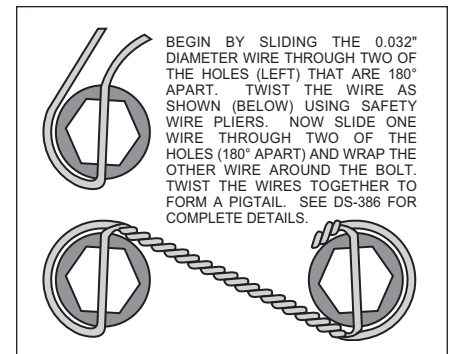

Figure 3. Safety Wire Diagram
- The spindle and caliper bracket (1) have been assembled at the factory for alignment purposes. Loosen the two bolts that secure the brackets together so that the bolts are hand tight only, this will enable the bracket assembly (1) to be adjusted to accommodate various spindle tolerances during assembly. Bolt the lower portion of the bracket assembly (1) to the backing plate face of the spindle using two bolts (2) and two lock nuts (3), hand tighten only. **NOTE:** Be sure the heads of the bracket assembly (1) insert nuts are facing outward toward the wheel. Install bolt (4) through caliper bracket (1), and into the steering arm. Torque two bolts (2) to 47 ft-lb. Apply red *Loctite*® 271 to the bolt threads (4) and torque to 140 ft-lb. Remove one of the bolts that secure the bracket assembly (1) to each other. Apply red *Loctite*® 271 to the bolt threads and reinsert into the bracket assembly. Repeat this procedure for the second bolt. Torque these two bolts to 30 ft-lb.
- Install five new wheel studs (5) into the hub (6). Torque to 77 ft-lb. **NOTE:** There are two five lug patterns in the hub (5 x 4.50 and 5 x 4.75). Make sure of the correct hole pattern for the correct wheel application before installing studs into hub.
- Pack the large inner bearing cone (7) with high temperature disc brake bearing grease (available from your local auto parts store) and install into the backside of the hub (6).
- Install the grease seal (8) by pressing into the backside of the hub (6).
- Pack the small outer bearing cone (13) with high temperature disc brake bearing grease and install into the front side of the hub (6). Lightly coat the spindle bearing surfaces with bearing grease. Slide the hub assembly (5, 6, 7, 8 and 13) onto the spindle. Secure using spindle washer (14), existing adjusting nut and nut locking device. Adjust wheel bearing pre-load per Original Equipment Manufacturer (OEM) specifications.
- Install the o-ring (15) and the dust cap (16) into the hub (6). Friction created by the o-ring (15) on the dust cap (16) keeps it from unscrewing. The O.D. of the existing spindle washer may be larger than the I.D. of the dust cap (16) which may allow the washer to contact the dust cap (16). Use the spindle washer (14) supplied with the kit instead of the stock washer.
- With the larger I.D. side of the rotor (9) facing away from the hat (11), bolt rotor (9) to hat (11) through the backside of the rotor using bolts (10). Torque bolts (10) to 180 **in-lb**. Safety wire bolts (10) using standard 0.032 inch diameter stainless steel safety wire as shown in Figure 3. Please refer to Wilwood's data sheet DS-386 (available at [www.wilwood.org/ds386.pdf](http://www.wilwood.org/ds386.pdf)) for complete safety wire installation instructions.
- Slide the rotor/hat assembly (9, 10 and 11) over the wheel studs (5) in the hub (6) taking care to align the small countersunk holes in the hat (11) with the small threaded holes in the hub (6) Install three flat head socket head screws (12) through the small holes in the hat (11) and torque to 100 **in-lb**.
- NOTE:** Please reference the caution statement at the beginning of the assembly instructions. With the bleed screws pointing up, mount the caliper (17) onto the caliper bracket (1) using two bolts (20), two lock washers (19) and two shim washers (18). Finger tighten. View the rotor (9) through the top of the caliper (17). The rotor (9) should be aligned in the center of the caliper (17). If not, loosen the two bolts (20) and adjust the caliper (17) by using 0.032 inch thick shim washers (18). The shim washers (18) should be placed between the caliper (17) and the caliper bracket (1). Finger tighten and recheck alignment. Loosen the two bolts (20) and apply red *Loctite*® 271 to bolt threads (20) and torque to 30 ft-lb. Safety wire the two bolts (20).
- Install the disc brake pads (21) into the caliper (17) and secure using cotter pin (24).